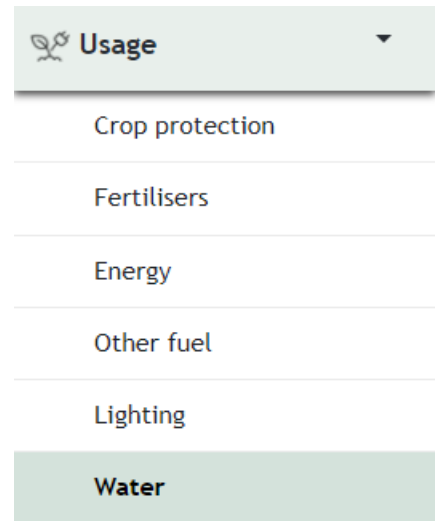

Figure 17
1. Click on 'Usage' in the menu on the left and then on 'Water' (see figure 17).